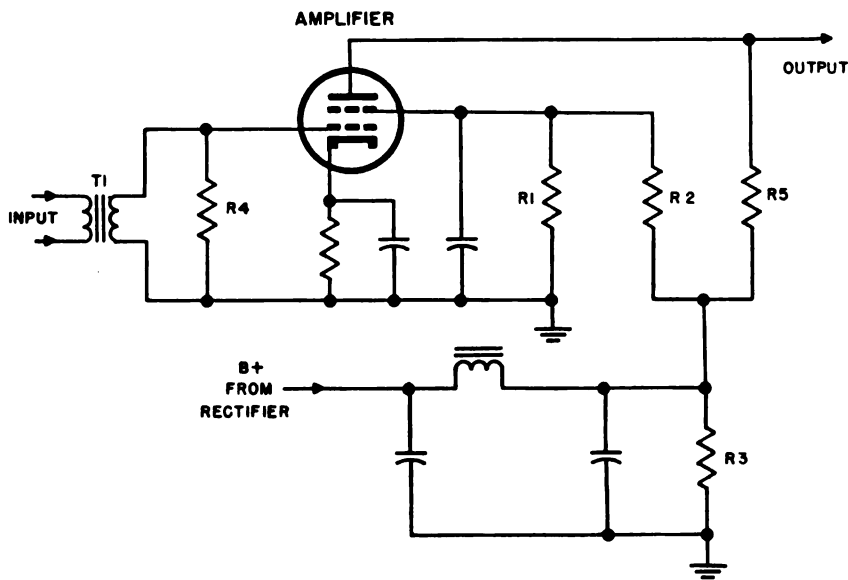

Figure 40. Audio amplifier circuit.
b. In figure 40, resistor R4 is shunted across the grid winding of transformer T1. If a continuity measurement is made across R4, the low-resistance path through T1 in parallel with R4 will be indicated on the ohmmeter and an erroneous reading will result. It is therefore